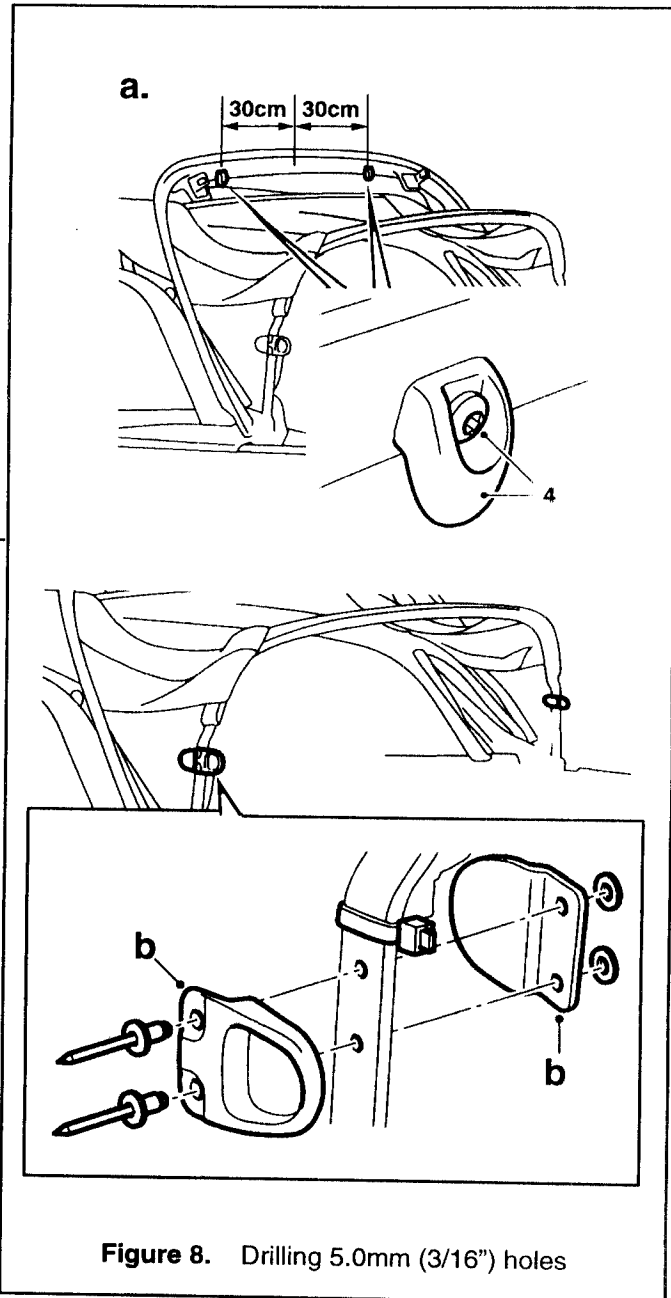

Figure 8. Drilling 5.0mm (3/16") holes
2. Make marks 30cm from the center point where the rear window guides on the fifth bow are to be fitted. See Figure 8.
4. Apply Loctite (242 blue) to the screws and screw the guides in position. See Figure 8.